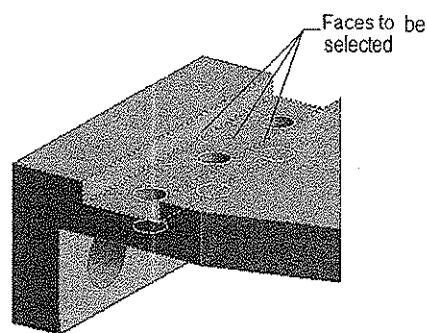

Figure 7-39 Partial view of the model with the faces selected for fill operation
5. Press CTRL and select the three faces of the lower groove and three small holes, as shown in Figure 7-39.